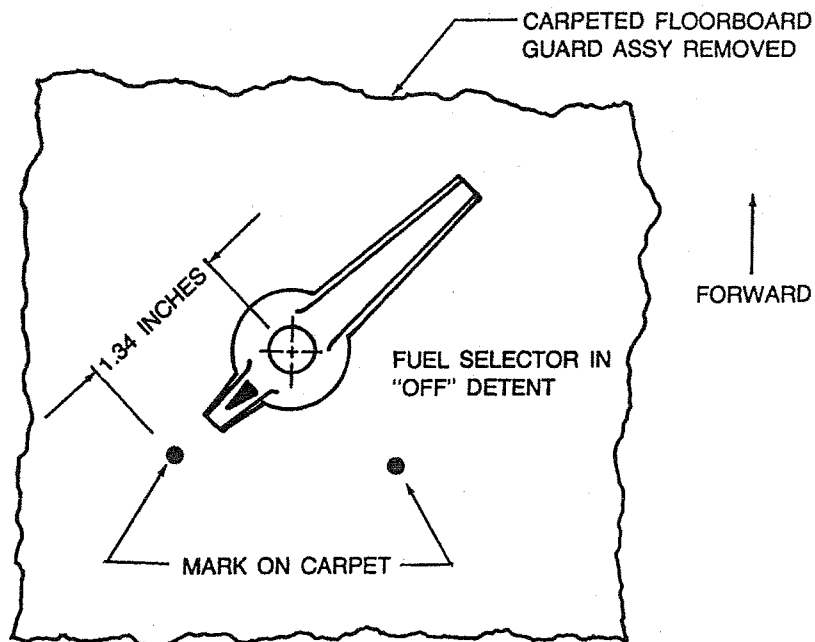

Figure 2
4. Replace the fuel selector valve handle and turn the handle to one of the "OFF" detents. Refer to Figure 2.